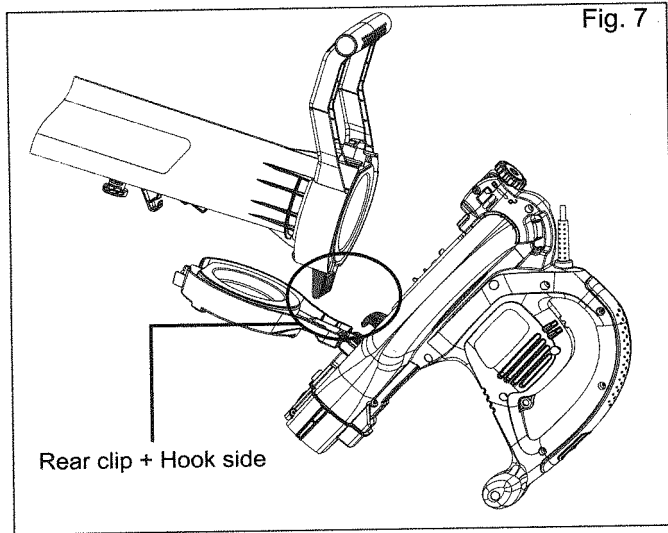

Fig. 7
3. With the blower tube removed, insert the "hooked" Side end of the mulcher tube into the rear clip on the unit. Rotate the lock knob to close the front tube (The indicator is on the far right position, Fig. 7).